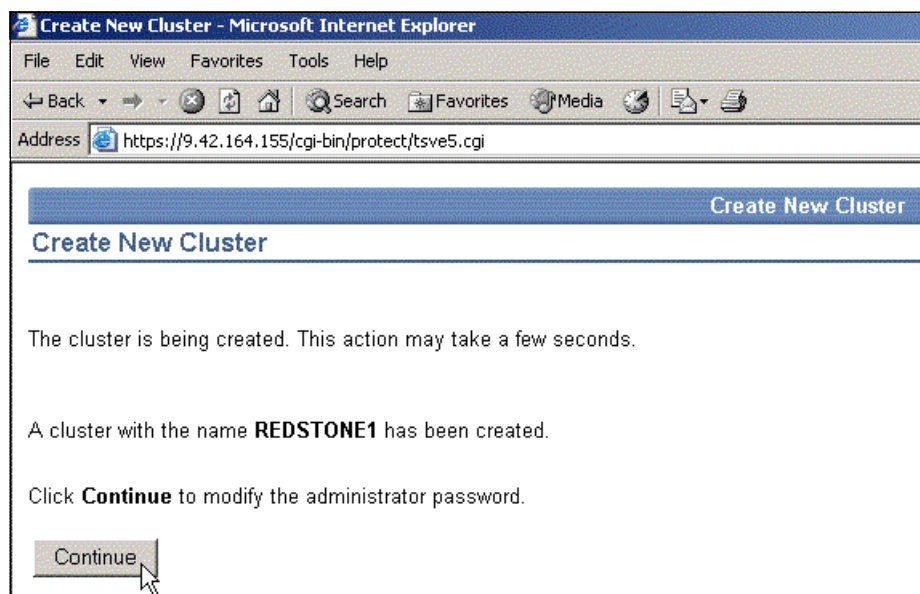

Figure 4-10 Create New Cluster Progress page
6. A number of progress windows appear as shown in Figure 4-10. Click **Continue** each time you are prompted.